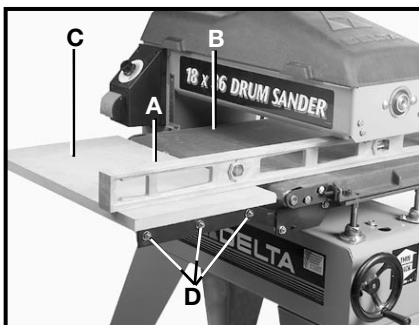

Fig. 10
10. Place a level (or straight edge) (A) Fig. 10 across the sanding table (B) and over front support table (C) to determine if they are level with each other. To adjust, loosen the six (6) adjusting nuts (D) Fig. 10 (three of which are shown) on the support table (C) Fig. 10. Adjust the table until it is level with the sanding surface (B) and tighten nuts (D) Fig. 10. Repeat for the other support table. Tighten all mounting hardware. **NOTE: Support table must be level or slightly below the sanding surface, but it MUST NOT be higher.**